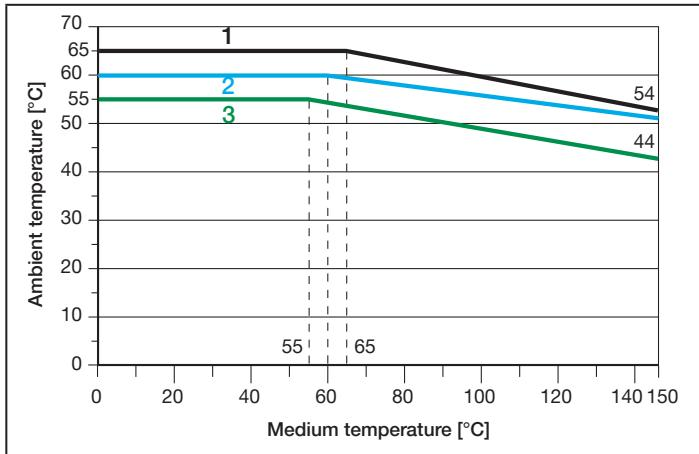
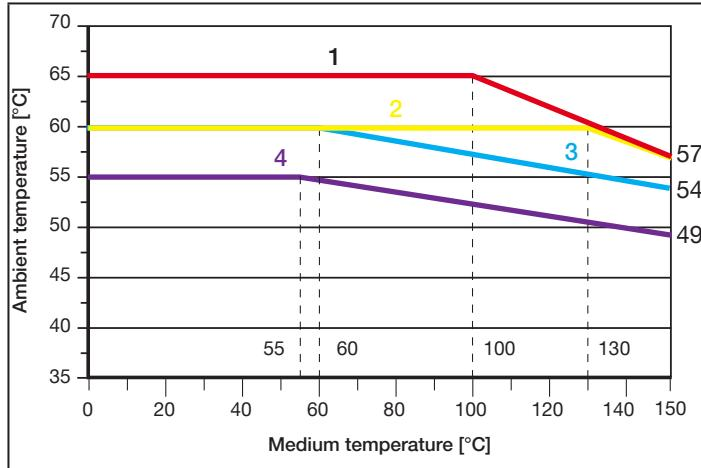

Fig. 8: Temperature diagram AG2
Fig. 9: Temperature diagram AG3
- **Ambient temperature:** dependent on medium temperature. See “Fig. 8” and “Fig. 9”.
Head dependencies on ambient temperature and medium temperature. See “Fig. 8” and “Fig. 9”.